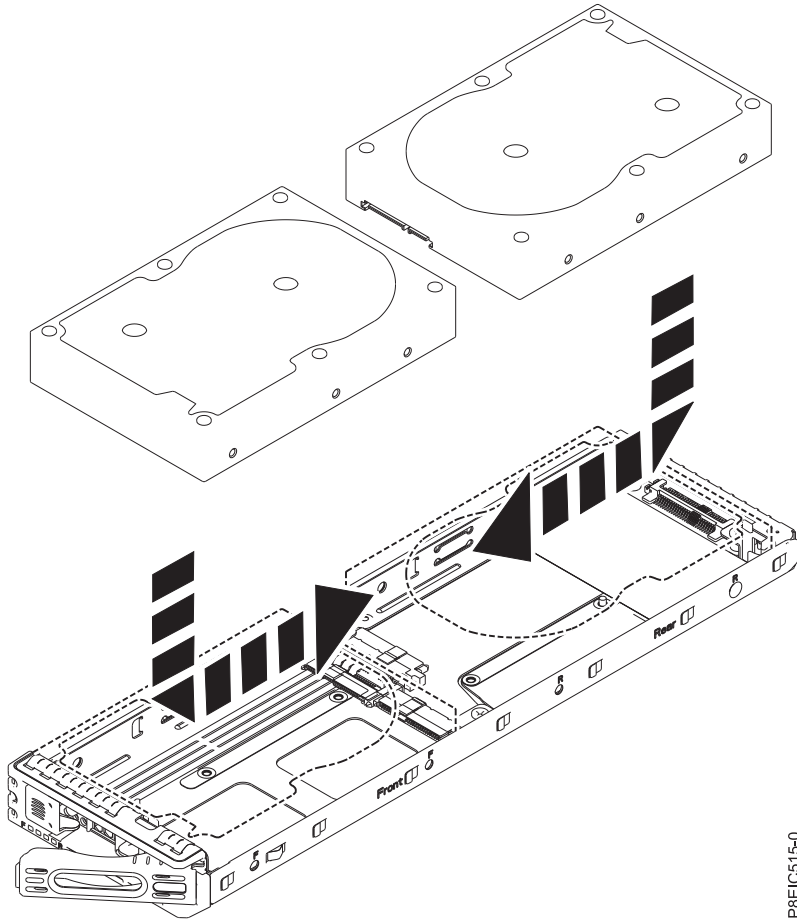

Figure 12. Installing the 3.5 inch drive into the tray
- a. Place the drive in the tray, then slide the drive into the socket, as shown in Figure 12 on page 13.